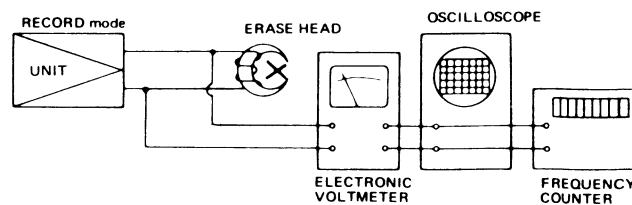

Figure 5-4
- 1) Make a connection of instruments as shown in Figure 5-4.